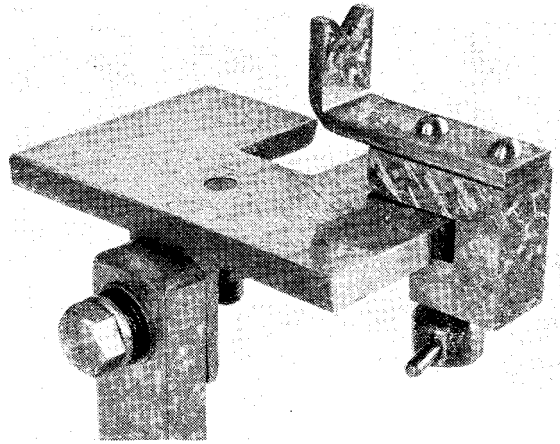
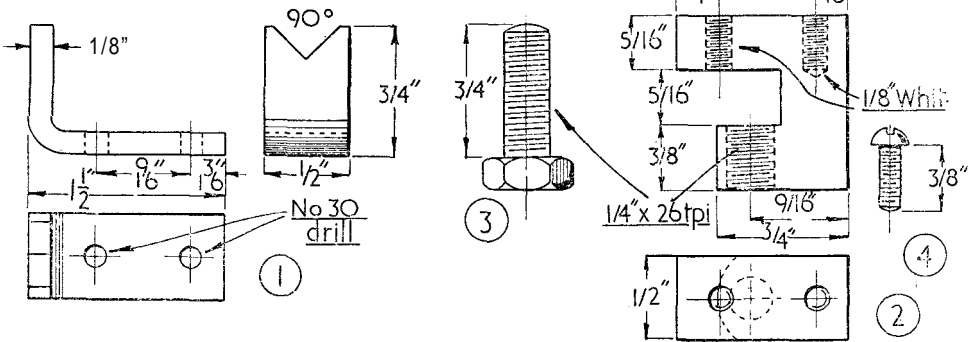

Fig. 1. Showing the V-rest attached to the grinding table
Fig. 2. Working drawings of the grinding rest
The general arrangement drawing, or in this case the photograph in Fig. 1, is intended to show the worker what he has to make, and the working drawings in Fig. 2 give the dimensions of all the parts. The V-rest, part (1), is made from a length of 1/2 in. x 1/8 in. mild-steel strip, and before being cut to length, the position of the screw holes should be marked-out as already described and then drilled 1/8 in., but if it is found that these drill holes do not allow the 1/8 in.
It will be noticed that in the drawing in Fig. 2, showing the upper surface of the clamp, a curved broken line appears; this is the conventional way of indicating that a part lying underneath, namely the limb of the clamp, is formed with a